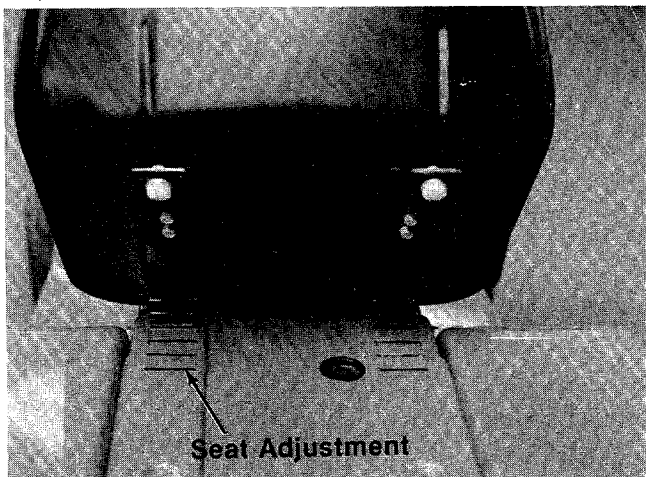

**FIGURE 10.**
The ignition switch is located in the center of the dashboard. Turn the key to the "START" position to start the engine. When the engine is running leave the key in the "ON" position. To stop the engine turn the key to the "OFF" position. (See figure 10.)
The throttle control is located on the left side of the dashboard and is used to regulate the engine speed. (See figure 10.) The engine should be operated from  $\frac{3}{4}$  to full throttle (FAST) when operating any equipment that uses the tractor engine as a source of power such as the mowing deck, snow thrower or rotary tiller. (See figure 10.)
The head lamps are operated by pushing the light switch located on the dashboard. The head lamps will only operate when the engine is running. (See figure 10.)
The maximum charging rate is 3 amps. The head lamps operate directly from the engine alternator and do not register on the ammeter. (See figure 10.)
4. Set the throttle control in the "FAST" position. (See figure 10.)
5. Turn the ignition key to the right to the "START" position. After the engine starts release the key. It will return to the "ON" position. (See figure 10.)